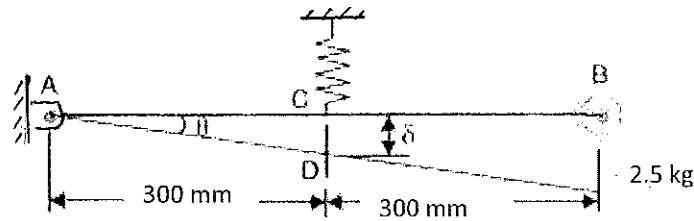

Fig.Q2
A uniform thin rod (AB), as shown in Fig.Q2, has a mass of 1 kg and carries a concentrated mass of 2.5 kg at B of its free end. The rod is hinged at A and is maintained in the horizontal position by a spring of stiffness 1.8 kN/m at its centre, C.